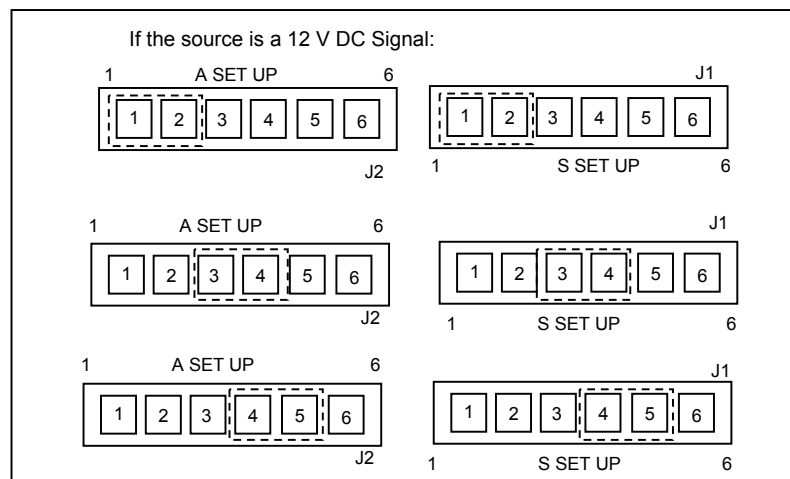

Figure 17
- For 12V DC output signals, position the jumpers on pins **1** and **2** of the **J1 (S SET UP)** and **J2 (A SET UP)** headers. (Refer to Figure 17)
- For 5V DC output signals, position the jumpers on pins **3** and **4** of the **J1 (S SET UP)** and **J2 (A SET UP)** headers. Refer to Figure 17)
- For 10mA DC output signals, position the jumpers on pins **4** and **5** of the **J1 (S SET UP)** and **J2 (A SET UP)** headers. (Refer to Figure 17)